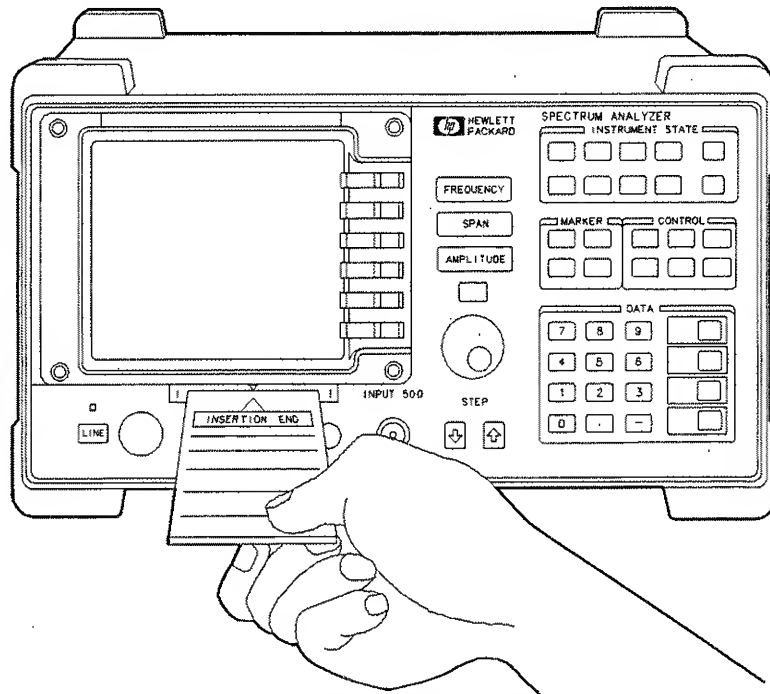

Figure 2-7. Inserting the Memory Card
2. Insert the card with its arrow matching the raised arrow on the bezel around the card-insertion slot. See Figure 2-7.